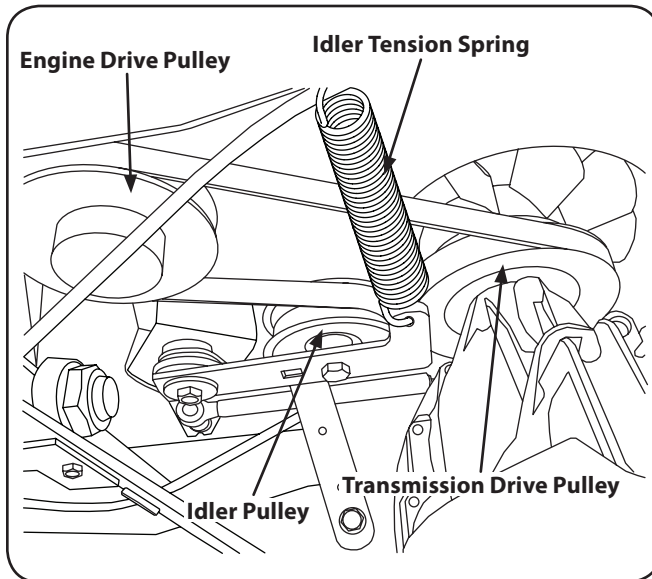

Figure 7-1.
2. Access engine drive pulley, idler pulley and belt from the left hand side of the spreader. See Fig. 7-1.
3. Release the drive belt idler tension by disconnecting the idler arm tension spring where it is attached to the engine base frame. See Fig. 7-1.
4. Remove the old belt and mount a new belt onto the transmission drive pulley and the engine drive pulley. Install the belt onto the alternator drive pulley, if equipped. See Fig. 7-1.